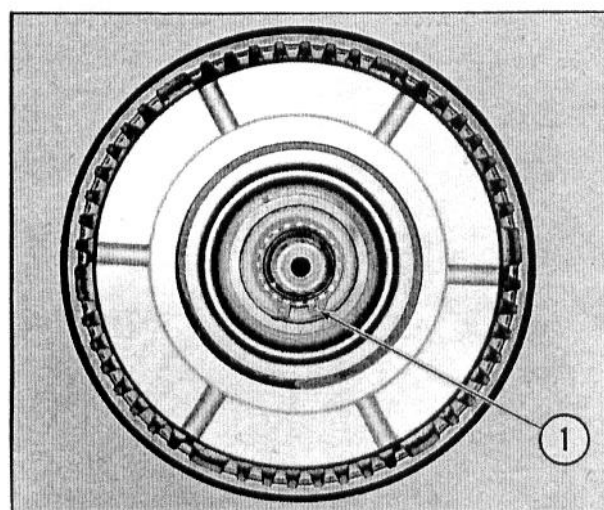

Fig. 37 — Removing the Cylinder
3. Remove the snap ring, holding the clutch cylinder in position on the output shaft. See Fig. 37. Slide the clutch cylinder off the output shaft.